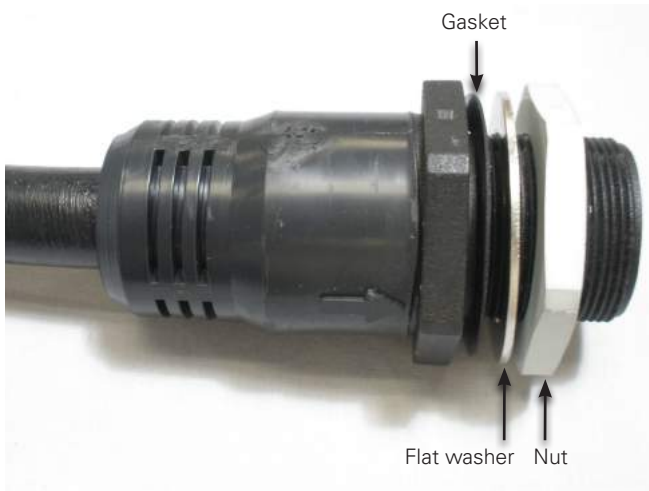

Figure 16. Control cable female connector and components.
1. Remove the nut, flat washer, and gasket from the female connector of the control cable (Figure 16).